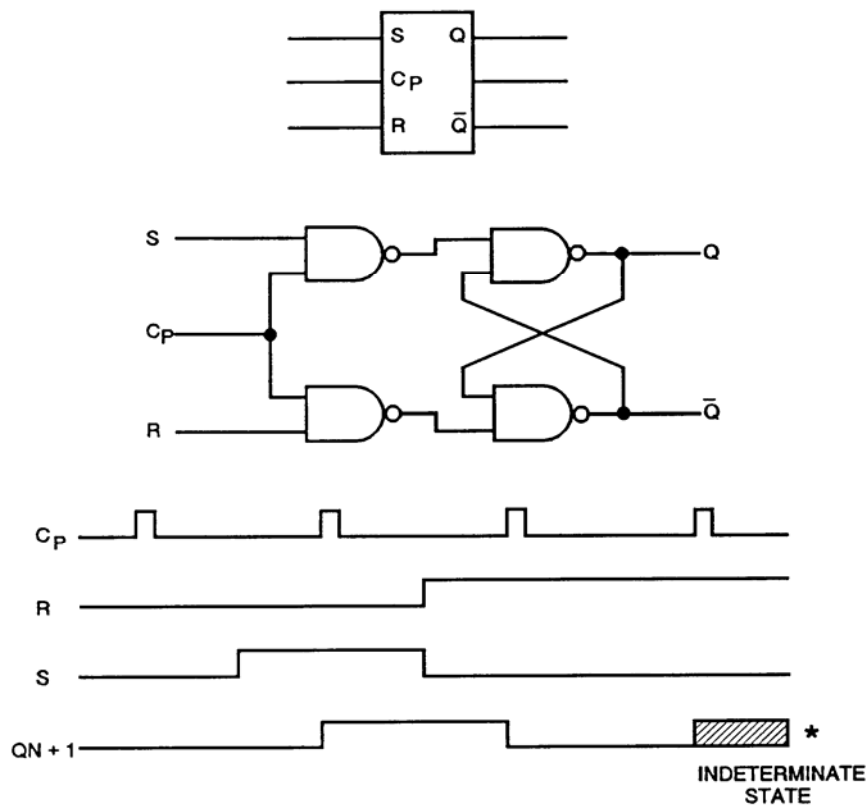

Figure Q-28. Clocked R-S Flip-Flop
(1) Suppose you had two signal sources such as two video signals to switch between. You could use an R-S FF to accomplish this. The only problem would be that when you command the FF to switch, it will do exactly that. You are familiar with switching between video sources; it is desirable to switch when the transition will not be seen. This means during the vertical blanking interval (VBI).
(2) Now if you had a 60-Hz clock in your body, you would be able to command a switch during the vertical interval, but most of us are not that accurate to press a button at the exact time a switch should be made. To overcome this problem, you could replace your R-S FF with one that is clocked by a vertical interval pulse. A clocked R-S FF will not switch when the R or S inputs are changed but will wait until a third input (clock) is present. So it can be easily seen that you can command the FF to switch and then it will wait until the next clock pulse to do so. Figure Q-28 shows the symbol for the clocked R-S FF and its gate equivalent. Table Q-18 illustrates the truth table for the clocked R-S FF.